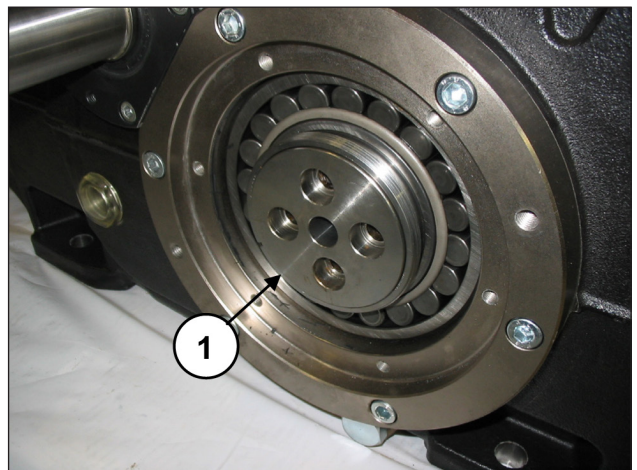

Fig. 15
The bush locking flanges must be left in position (pos. ①, Fig. 15).